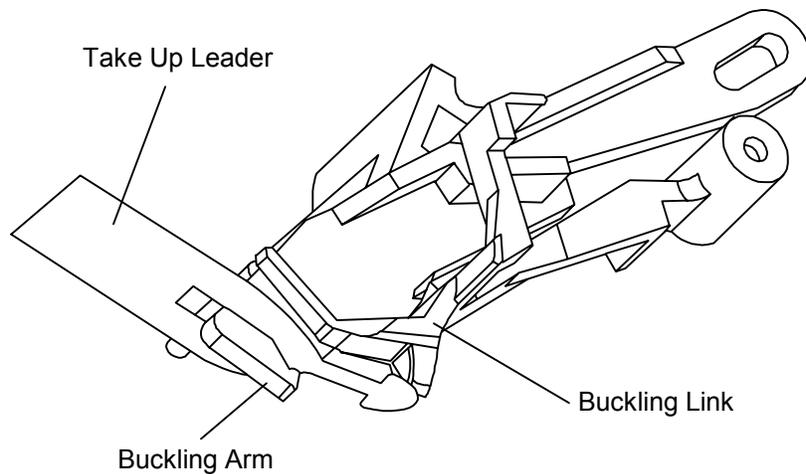
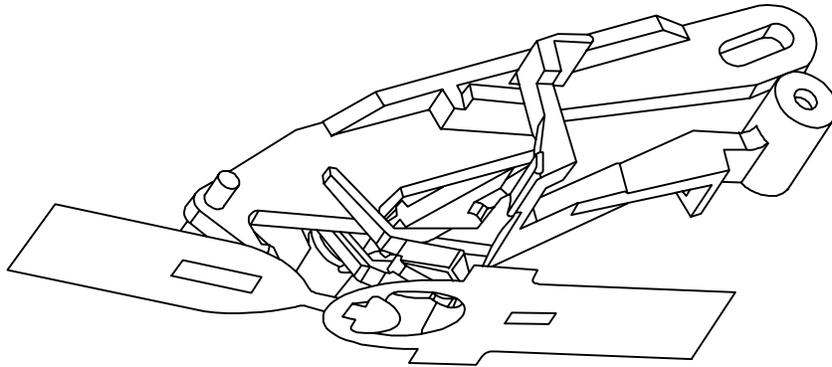

Figure 5-27 Correct Position of Take Up Leader / Buckling Link
Figure 5-30 Load Sequence Begins
17. See Figure 5-27 through Figure 5-30 for views of the proper take up leader load sequence.